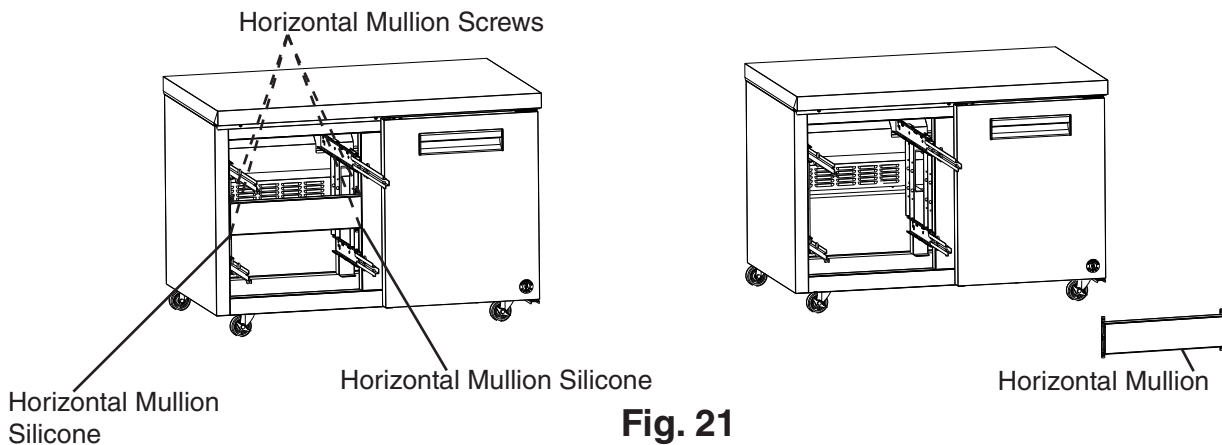

Fig. 21
- 3) Remove the 4 horizontal mullion screws, then cut the horizontal mullion silicone loose and remove the horizontal mullion. See Fig. 21.